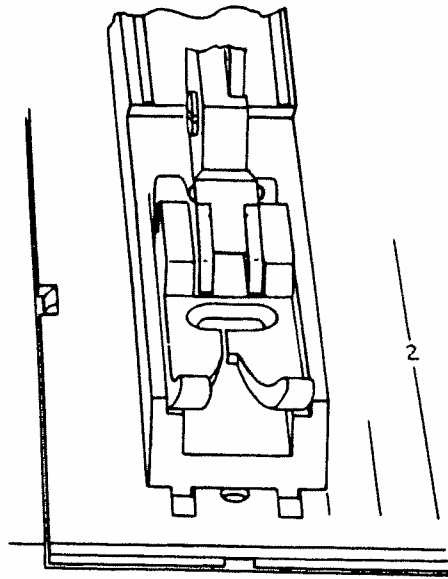

Fig. 4b
- Insert sewing foot gauge No. 63-114690-39 from behind under the zigzag foot and into the cutouts of the needle plate at the same time (fig. 4b).